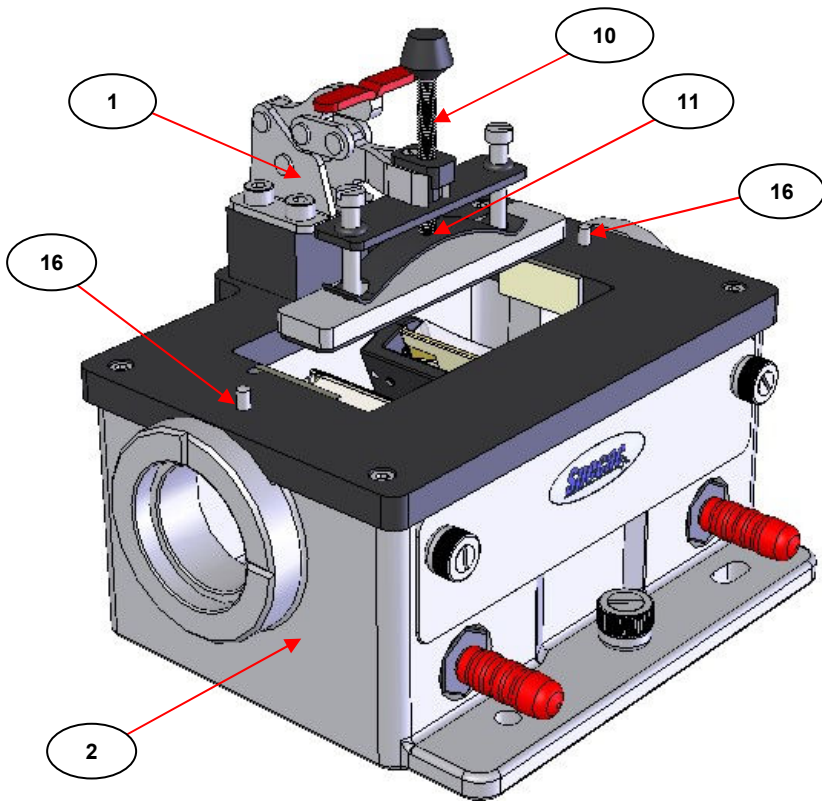
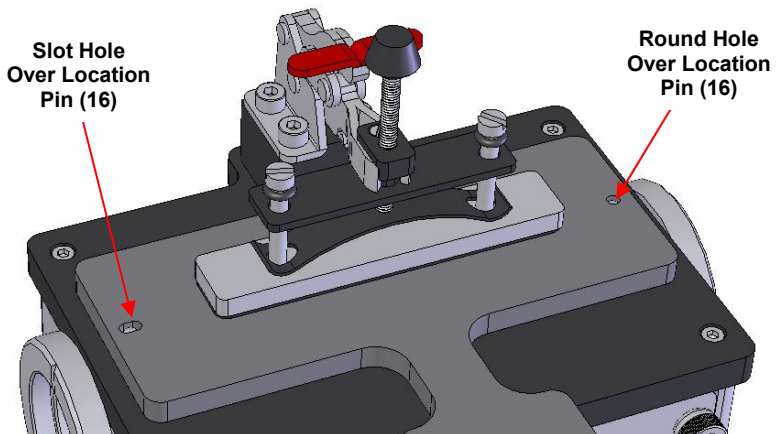

Fig 5. Gateway™ ATR Clamp Assembly Fitted to the Optical Unit
Fig 6. Flat Top Plate and Clamp Assembly Employed as Fitted to the Gateway™ ATR Optical Unit
3) Using the larger 3mm A/F Allen key supplied, secure the clamp assembly (1) to the Gateway optical unit (2) by clockwise rotation for tightening of the four fixing screws (14) through the aligned holes of the clamp assembly (1) and support block (13). (Do not over tighten).
Fig 5. shows the clamp assembly (1) in its fully closed position with some partial force being applied to the spring bar (11) from the tensioning screw (10), as correctly fitted to the optical unit (2).
On either side of the top surface plate (15) of the optical unit (2) there are two location pins (16). (See Fig 5.) At each end of the trough (3) and flat (4) top plate assemblies there is a round hole and a slot hole that passes all the way through the metalwork of these top plate assemblies. The top plate assemblies are fitted into correct position onto the top surface (15) of the optical unit (2) from alignment of the round and slot holes of the plates (3) and (4) with these location pins (16). (See Fig 6.)